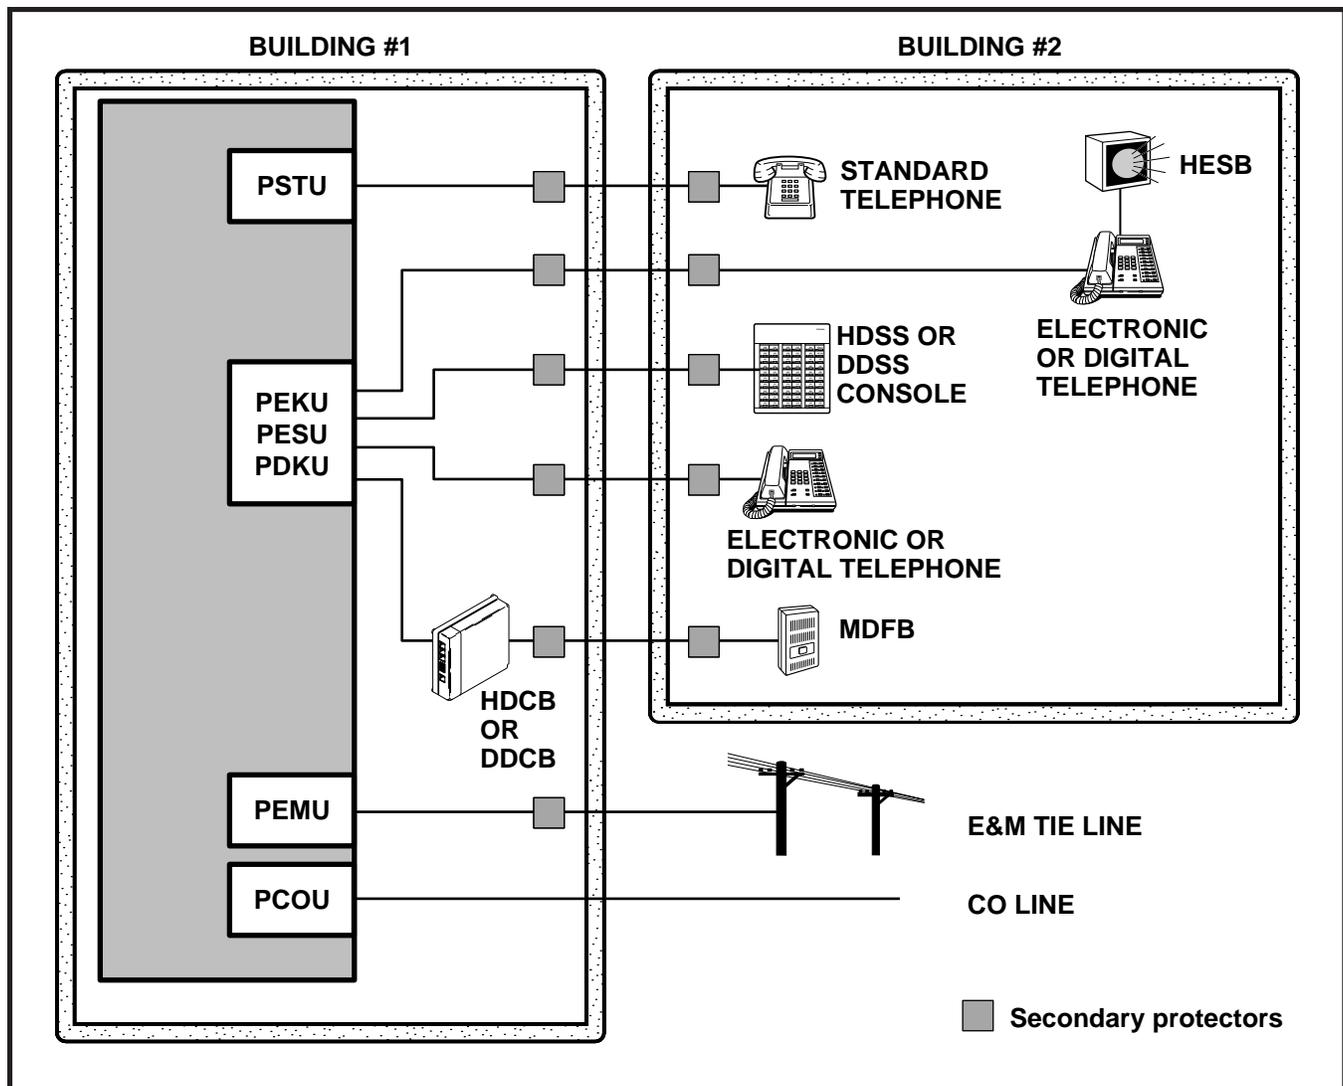

FIGURE 9-A
- Figure 9-A—Secondary Protector Diagram
To protect against transient voltages and currents, secondary protectors must be installed if there is outside wiring (Figure 9-A). These protectors, which contain fast semiconductors in addition to fuses, shall comply with the requirements for secondary protectors for communication circuits, UL 497A. As of October 1, 1990, the following manufacturers offer secondary -protectors that are UL listed.